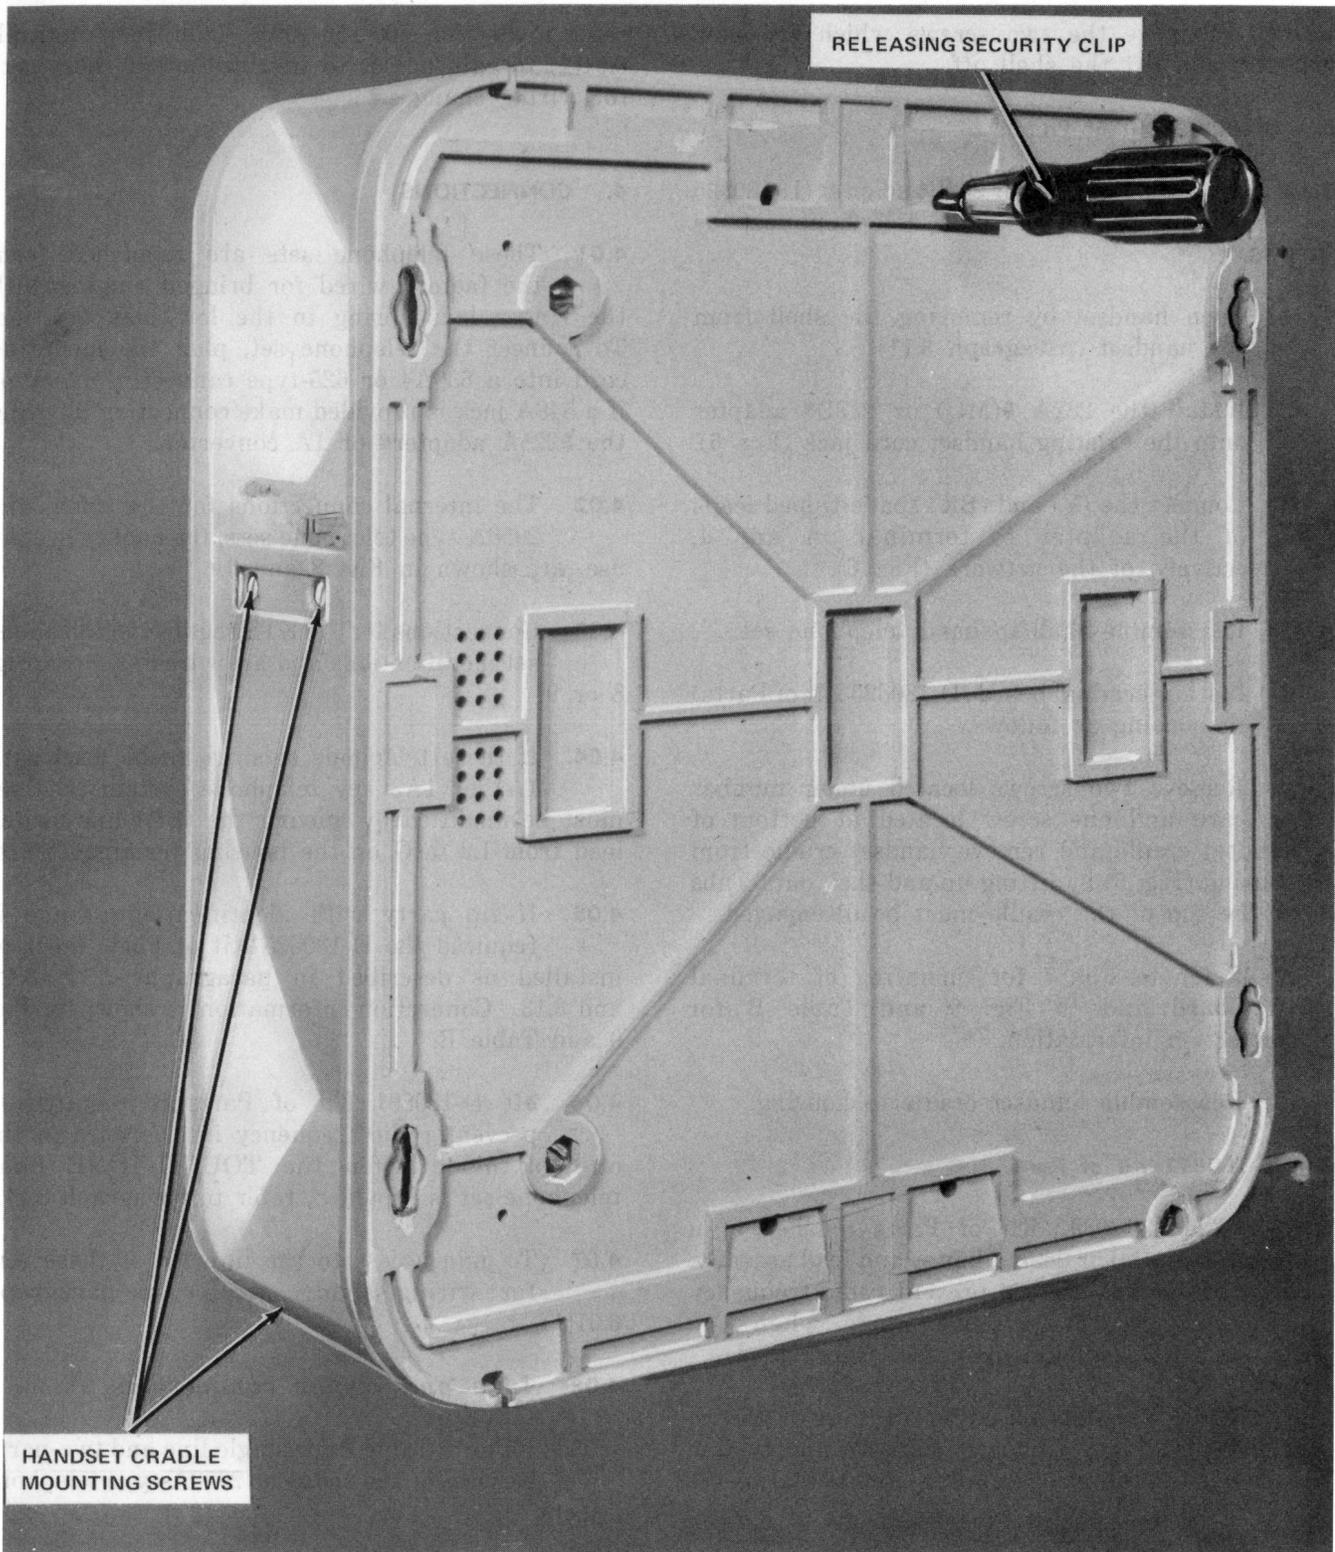

Fig. 5—950A- or 2950A-Type Telephone Set With Panel and Frame Removed
- (1) Unplug handset cord from handset jack in housing and place handset and cord aside.
- (2) Unplug mounting cord from line jack in housing.
- (3) Remove directories from set.
- (4) Pry out two locking plugs holding panel and frame to housing.
- (5) Slide frame up and pull away from housing.
- (6) Pry out two locking plugs holding housing to wall plate.
- (7) Insert a screwdriver in the hole as shown in Fig. 5, and pass screwdriver through directory compartment to press against security clip.
- (8) Slide housing up while pressing screw driver against security clip.
- (9) Pull housing away from wall plate.
- (1) Remove two screws located under number card and one screw located at bottom of handset cradle and remove handset cradle from housing (Fig. 5) by lifting up and then out. Tabs at the top of the cradle must be disengaged.
- (1) To access telephone components remove two screws located under number card and one screw located at the bottom of handset cradle and remove handset cradle from housing (Fig. 5) by lifting up and then out. Tabs at the top of the cradle must be disengaged.